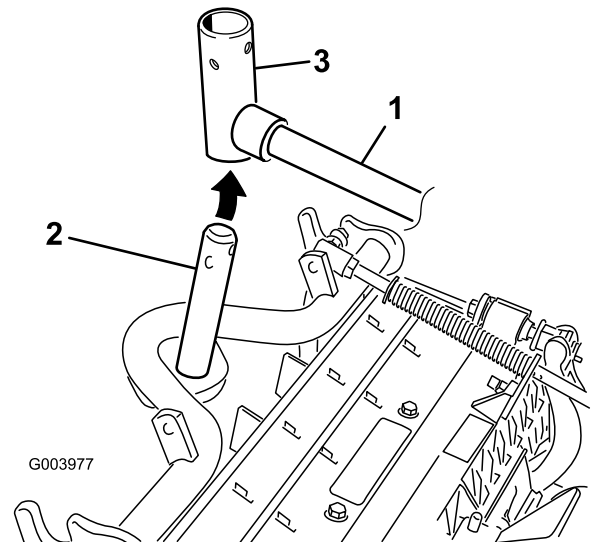

Figure 11
- B. Insert the lift arm yoke onto the carrier frame shaft (Figure 11).